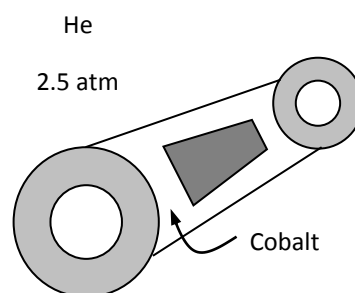

Figure 5: Helium diffusion in Cobalt
- (6). (a). A thick part made of cobalt (Co) is put into a room filled with helium (He) gas at 2.5 atmosphere and 150°C. Figure 5 are shown in. Determine the He concentration at a depth of 1.0-mm from the surface after 48 hours using Fick's second law of diffusion. The molar mass of He is $M = 4 \text{ kg/kmol}$. The solubility of He in Co at 150°C is $0.00301 \text{ kmol/m}^3\cdot\text{bar}$. The mass diffusivity of He in Co at 150°C is $D_{AB} = 1.5 \times 10^{-13} \text{ m}^2/\text{s}$. Use the error function table and equation given in appendix formula.